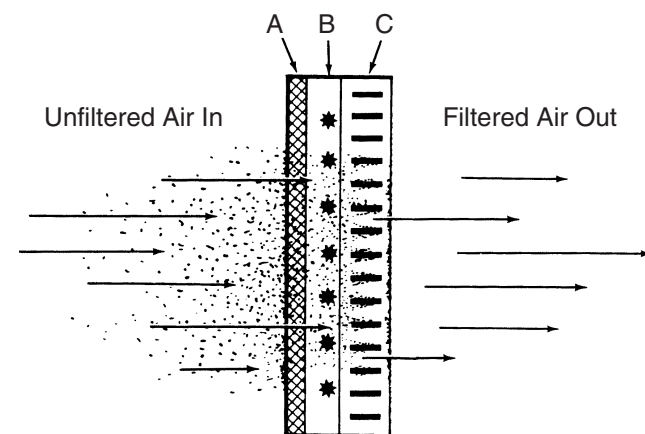

Figure 1
Air is drawn into the air cleaner from the return air duct. The air enters the pre-filters (A) where large particles (hair, lint, etc.) are trapped. The air continues into the ionizing section (B), where the remaining smaller particles (smoke, dust, pollen, etc.) are given a positive electrical charge. The charged particles enter the collecting section (C), which is a series of aluminum plates which are alternately charged (negative and positive). See figure 1.